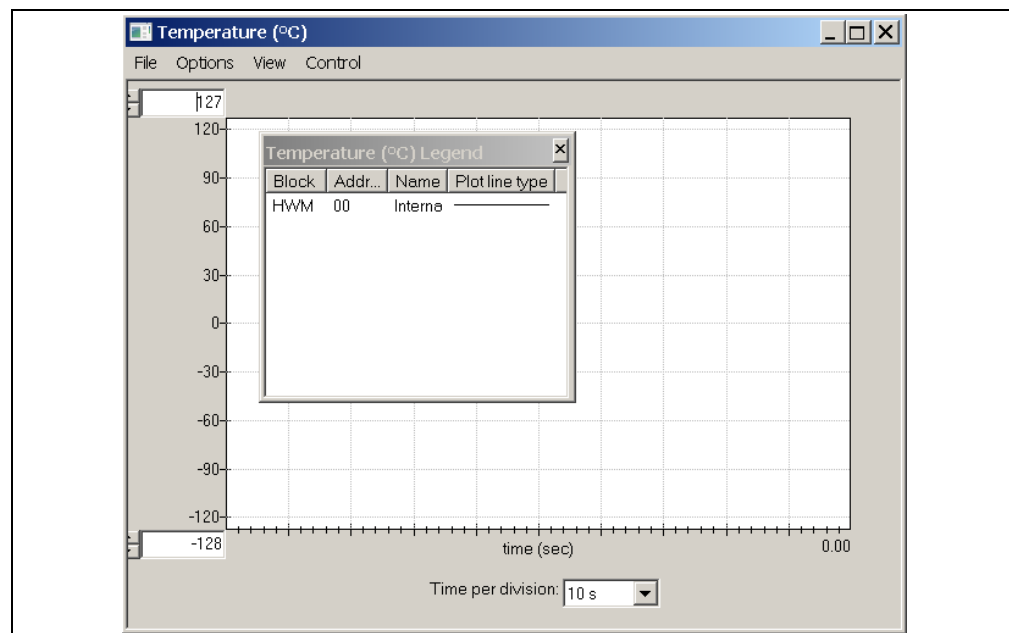

FIGURE 4-3: Register Plot Window.
- Once the desired register is added to be plotted, a graphic plot window will appear with a legend on top, as shown in Figure 4-3. The two windows can be rearranged independently.